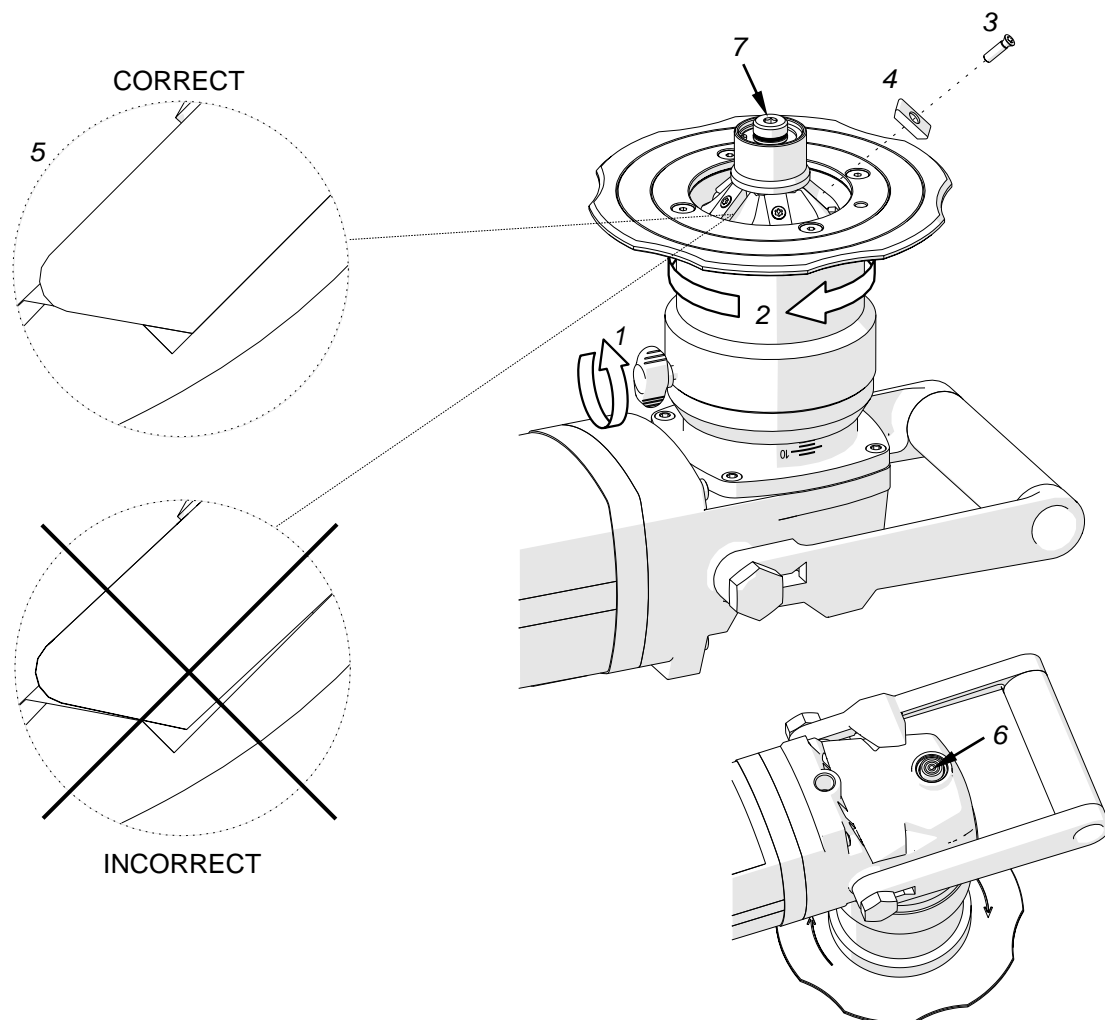

Fig. 8. Replacing the cutting inserts
Unplug the machine from the power source, and place the machine upside down. Next, loosen the clamping screw (1, Fig. 8) to access the milling head, and lower the sleeve as far as possible by rotating it to the right (2). Then, use the screwdriver supplied with the milling head to unscrew the screw (3), and remove the cutting insert (4). Clean the socket, and then rotate the insert and install again or replace with a new one if all possible to use edges are worn. Next, push and tighten the insert. The entire bottom of the insert must be in full contact with the surface of the socket (5).